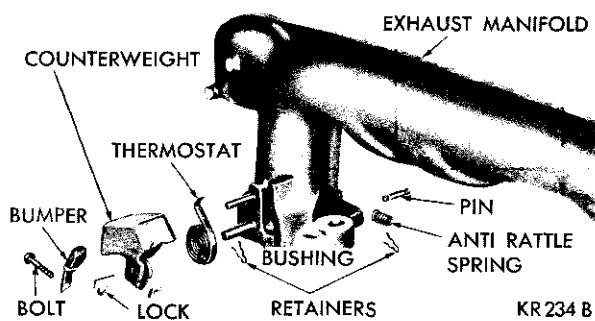

Fig. 7—Manifold Heat Control Valve—Center Outlet Manifold
(1) Position shaft in extreme counterclockwise position (Fig. 7).